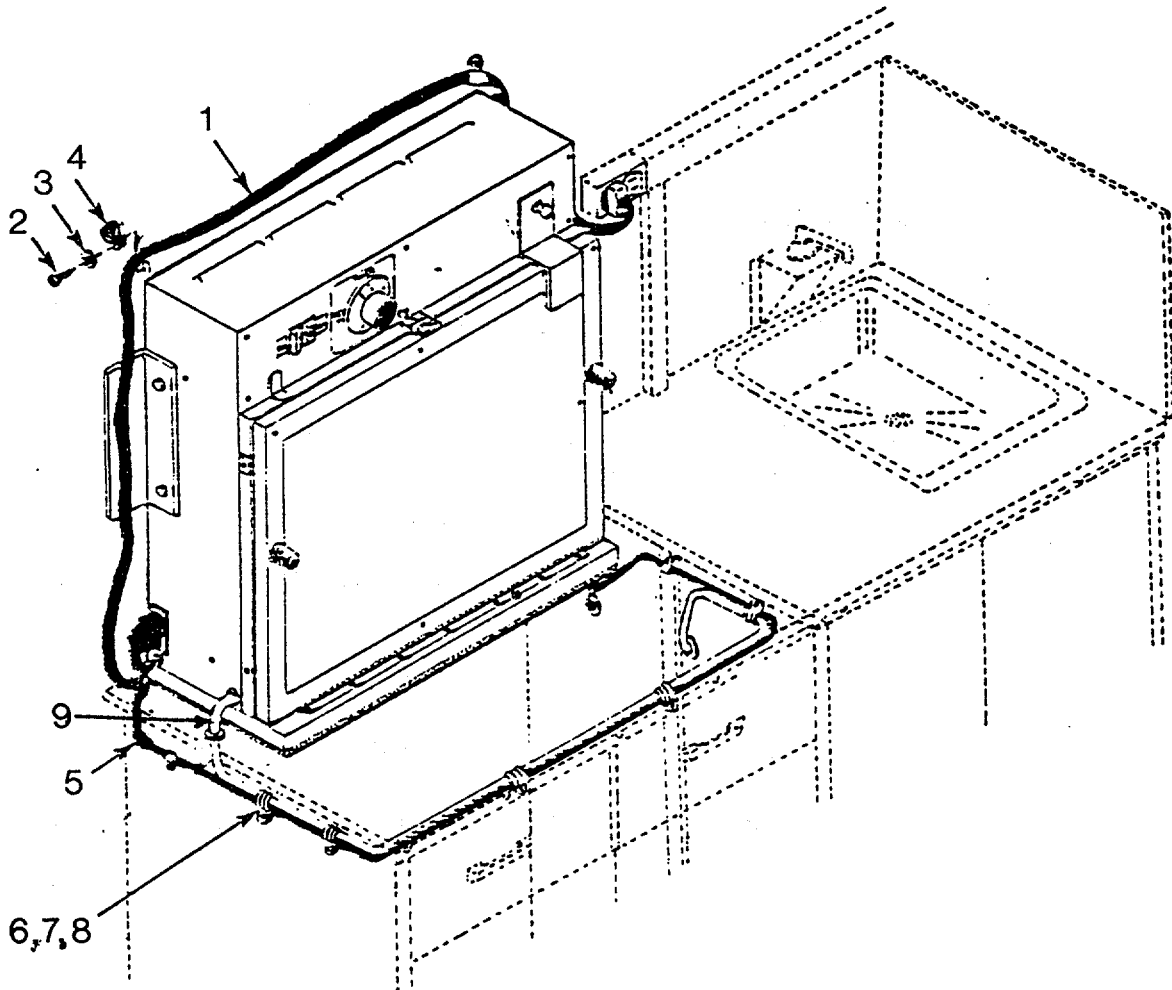
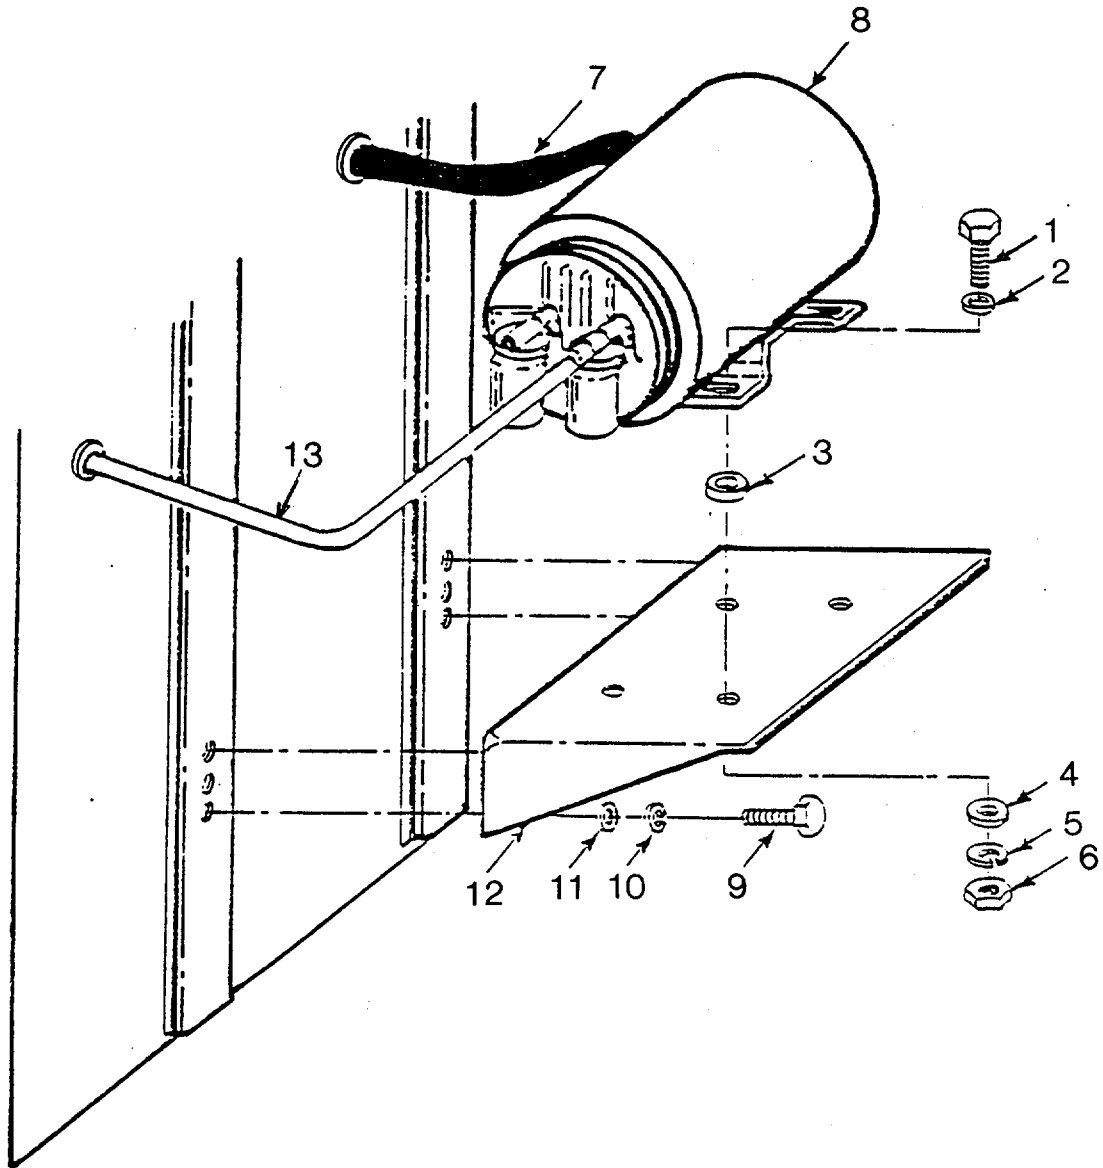
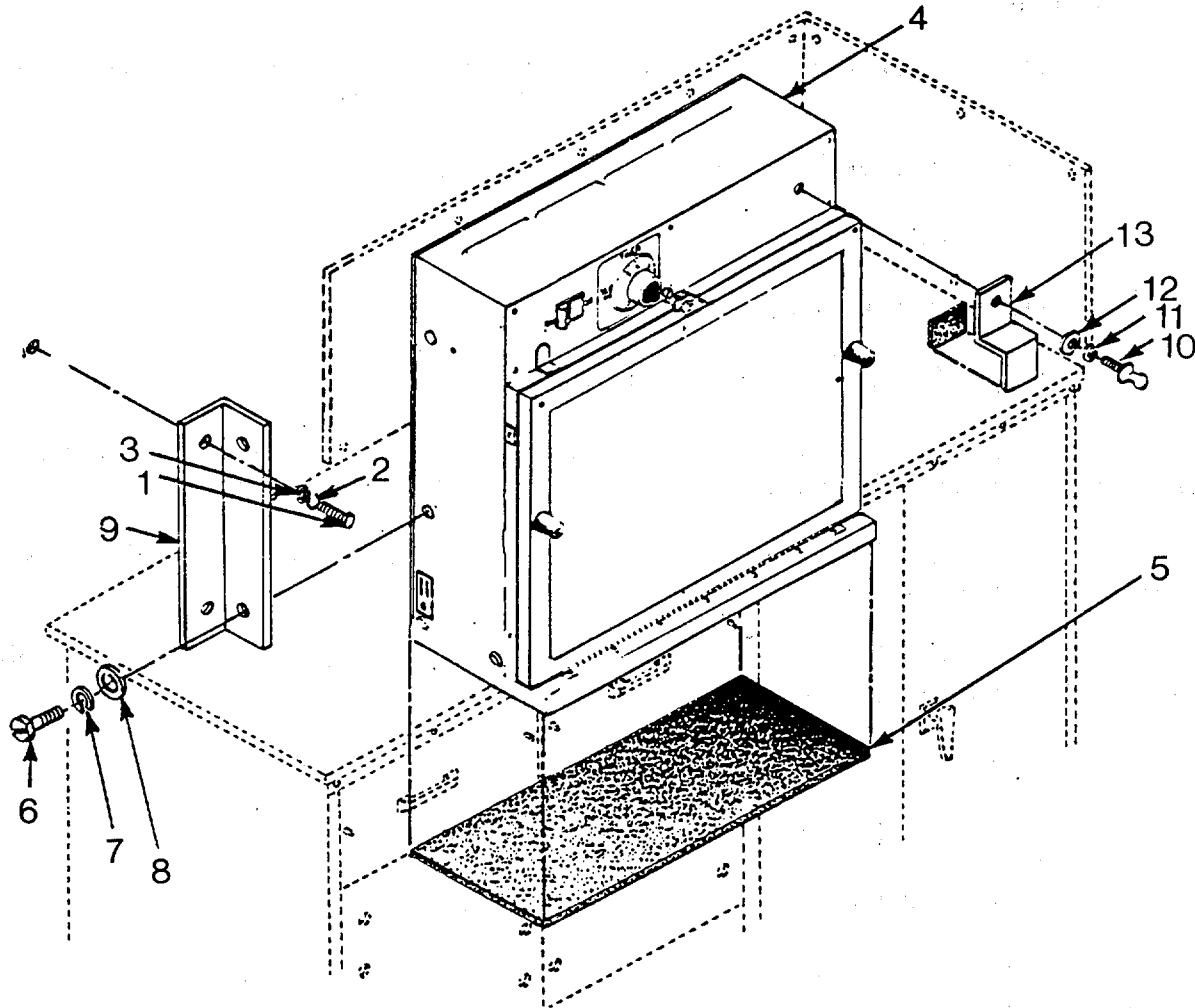

Figure 4-25. Vertical Vacuum Frame Assembly
Figure 4-26. Vertical Vacuum Frame Assembly Pump
Figure 4-27. Vertical Vacuum Frame Assembly Frame
a. Inspect. (See Figure 4-25.)
(1) Check vacuum frame assembly on countertop of darkroom for security of mounting and proper operation. Refer to TM 5-3610-301-12&P for proper operation.
(2) Check water supply cabinet vacuum pump for security of mounting and proper operation. Refer to TM 5-3610-301-12&P for proper operation.
(1) Disconnect vacuum frame assembly power cord (1, Figure 4-25) from receptacle.
(2) Remove screws (2), lockwashers (3), and cable clamps (4).
(3) Disconnect vacuum pump power cord (5) from vacuum frame.
(4) Remove supply storage cabinet screws (6), lockwashers (7), and cable clamps (8)
(5) Remove vacuum hose (9).
(6) Disconnect vacuum hose (9) from pump and remove from cabinet.
(7) Remove bolts (1, Figure 4-26), flat washers (2), rubber washers (3), flat washers (4), lockwashers (5), and nuts (6).
(8) Tag and disconnect water supply cabinet vacuum pump power cord (7) from pump. Remove from cabinet.
(12) Remove vacuum frame bolts (1, Figure 4-27) lockwashers (2) and flat washers (3).
(13) Remove vacuum frame (4) from counter top.
(14) Remove rubber pad (5).
(15) Remove bolts (6), lockwashers (7), and flat washers (8).
(16) Remove mounting bracket (9).
(17) Remove thumbscrews (10), lockwasher (11), flat washer (12), and shipping bracket with rubber pad (13). Remove rubber pad from shipping bracket only if necessary.
(18) Install shipping bracket with rubber pad (13) and secure with flat washers (12), lockwashers (11), and thumbscrews (10).
(19) Install vacuum frame mounting brackets (9) and secure with bolts (6), lockwashers (7), and flat washers (8).
(20) Install rubber pad (5) on bottom of vacuum frame.
(21) Install vacuum frame (4) on countertop.
(22) Install bolts (1), lockwashers (2), and flat washers (3).
(23) Install water supply cabinet shelf (12, Figure 4-26) and secure to cabinet with bolts (9), lockwashers (10), and flat washers (11).
(24) Install supply storage cabinet vacuum pump power cord (7), vacuum hose (13), and water supply cabinet vacuum pump (8).
(25) Install water supply cabinet bolts (1), flat washers (2), rubber washers (3), flat washers (4), lockwashers (5), and nuts (6).
(26) Install cable clamps (8, Figure 4-25), lockwashers (7), and screws (6).